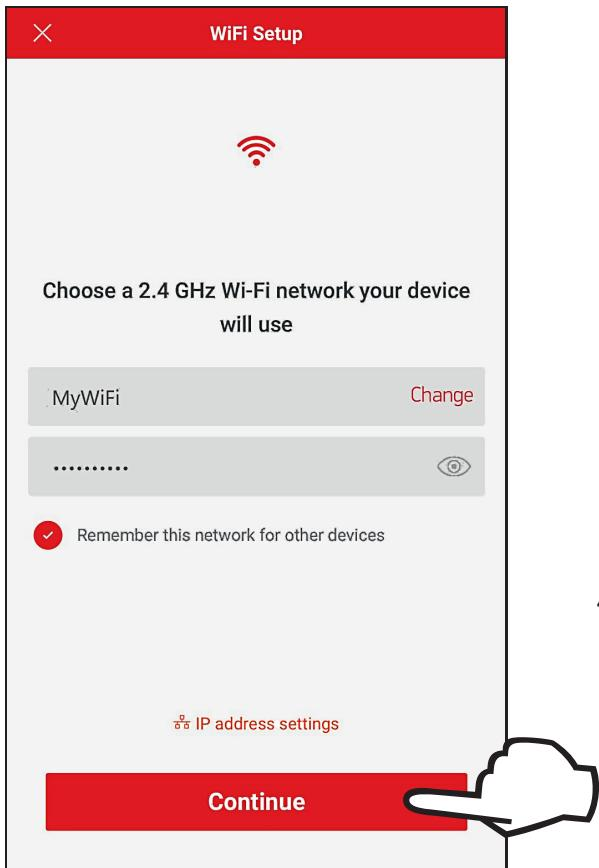

**Figure 86. Configuring Device**
- Raymote app will provide the Wi-Fi credentials to your unit. This process may take a few seconds. See **Figure 86**.